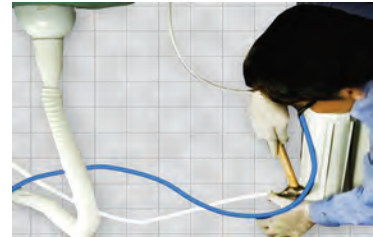

Fig. 4.94
- Clamp both white and blue pipes on the flat surface as shown in Fig. 4.94.